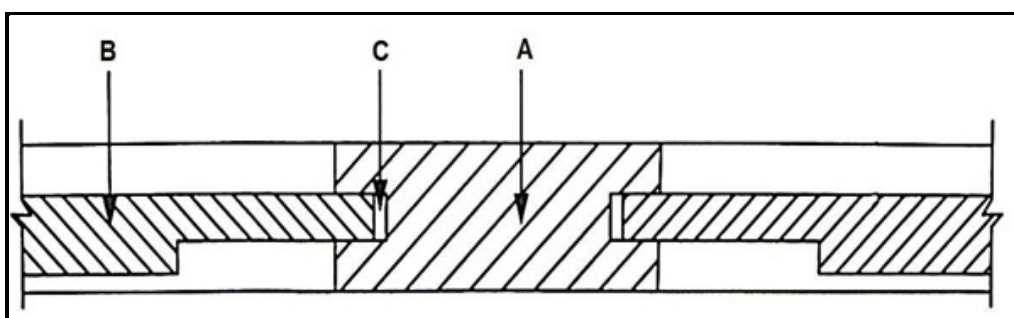

FIGURE 6.4
- 6.4 FIGURE 6.4 below shows the sectional view of a door. Study the drawing and answer the questions that follow.
- 6.4.4 Explain the purpose of the opening at C in FIGURE 6.4. (1)